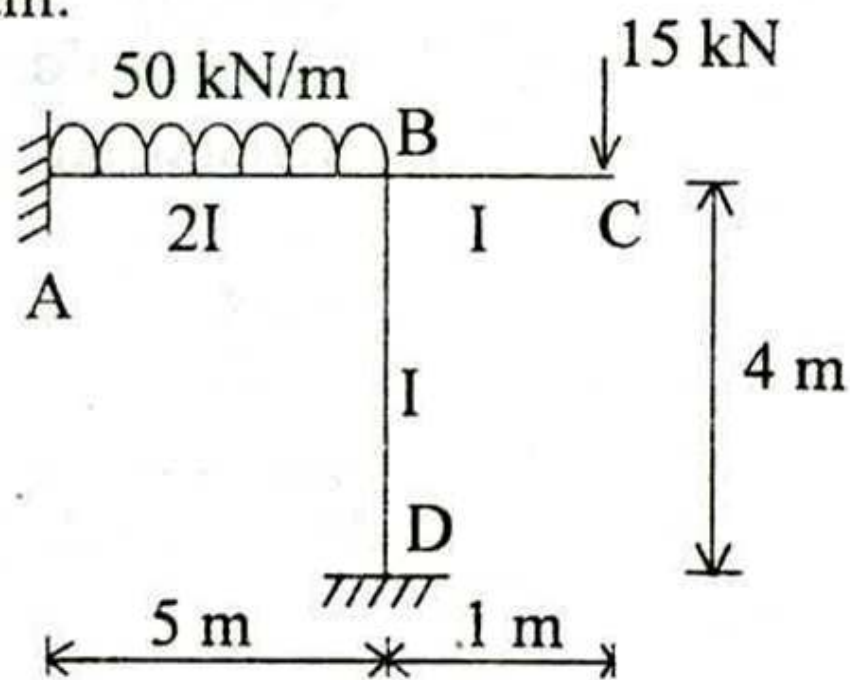

Fig. 3
3. (a) Analyze the frame shown in Fig. 3 by the moment distribution method and draw bending moment diagram. 15